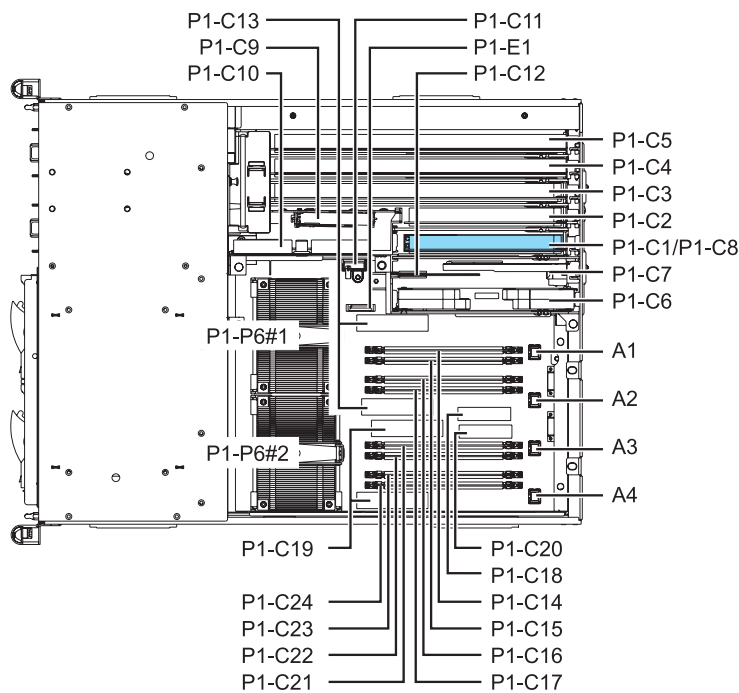
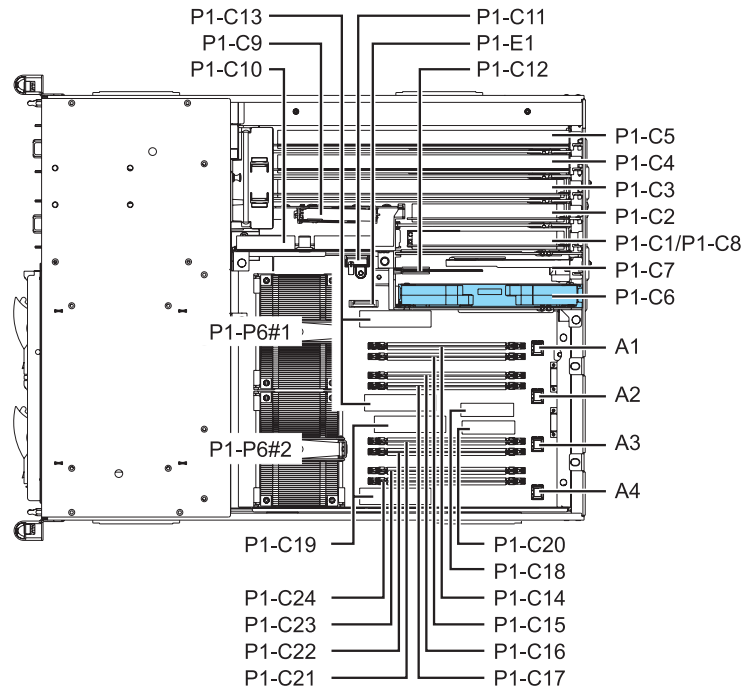

Figure 4. Top view of slot P1-C1/P1-C8 in model 8203-E4A or 9408-M25
Figure 5. Top view of slot P1-C6 in model 8203-E4A or 9408-M25
- For model 8203-E4A or 9408-M25 with processor feature code 5634, choose slot P1-C8 as shown in Figure 4 on page 16.
**Note:** If you are unsure about which processor feature you have, look at your system and refer to Figure 4 on page 16. If a processor is located in P1-P6#1 only, you have processor feature 5634. If processors are located in both P1-P6#1 and P1-P6#2, you have processor feature 5635.
- For model 8203-E4A or 9408-M25 with processor feature code 5635, choose slot P1-C6 for the first adapter as shown in Figure 5 on page 17. If you are installing a second adapter, choose slot P1-C1/P1-C8 as shown in Figure 4 on page 16.